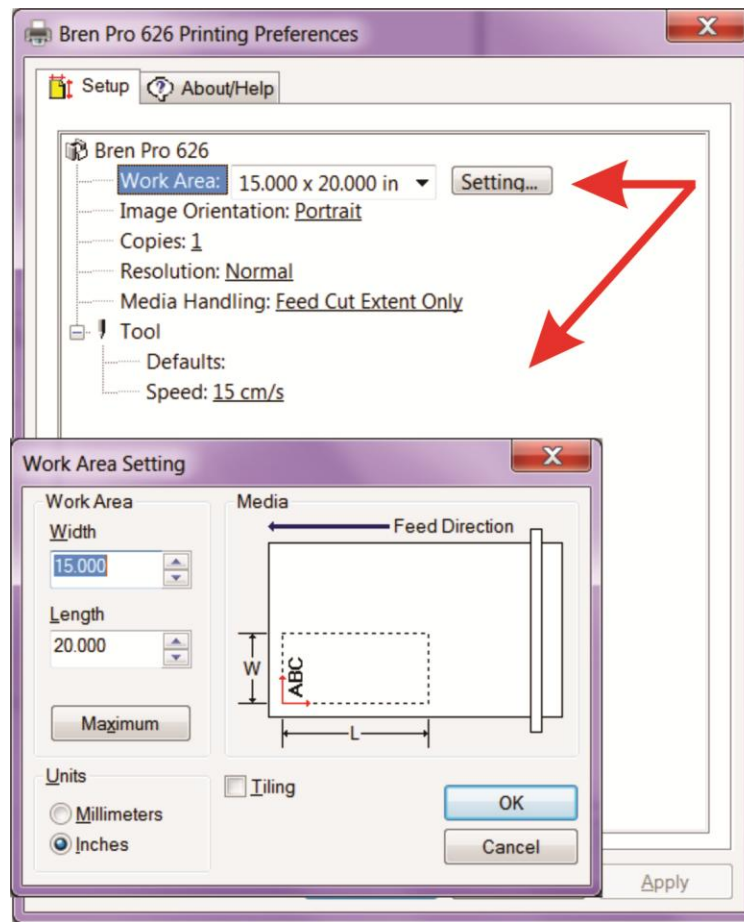

Figure 1
3. Right-click again on the BREN Pro printer icon and select **Printing Preferences** (Figure 1). The items you set here (**Setup** tab) will become the "default" settings in your cutting application. You can specify a starting page size (i.e. 22" w x 24"), unit of measure (change to inches), resolution (change to high), and media handling method (Feed Cut Extent Only). This will establish the initial page settings each time CutEngrave is opened; you can change the settings as needed, per job, once you are in CutEngrave. *Note: Refer to your Operation Manual for more information on printing preferences. If the default setting changes you made do not appear when you open CutEngrave, your computer is more than likely set up with Administrator Control. You will need to contact your Computer Administrator to change the default settings.*